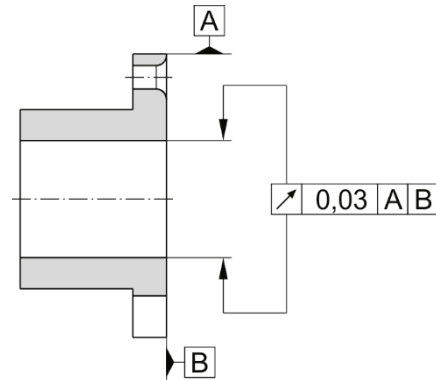

Fig. 3
- ❑ The recommended bore tolerances are to be produced using the position and tolerance width as references; at the same time, please keep to the shaft run-out and axial run-out tolerances of 0.03 mm (see Fig. 3).